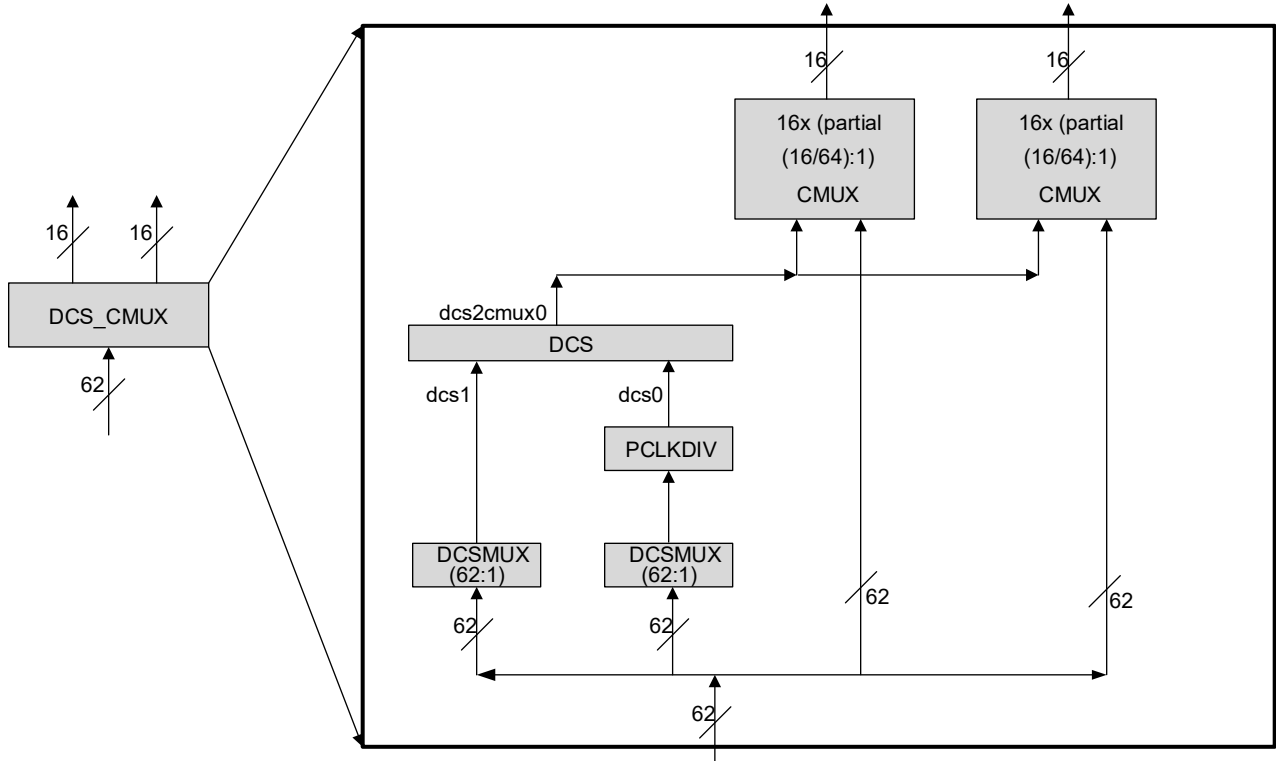
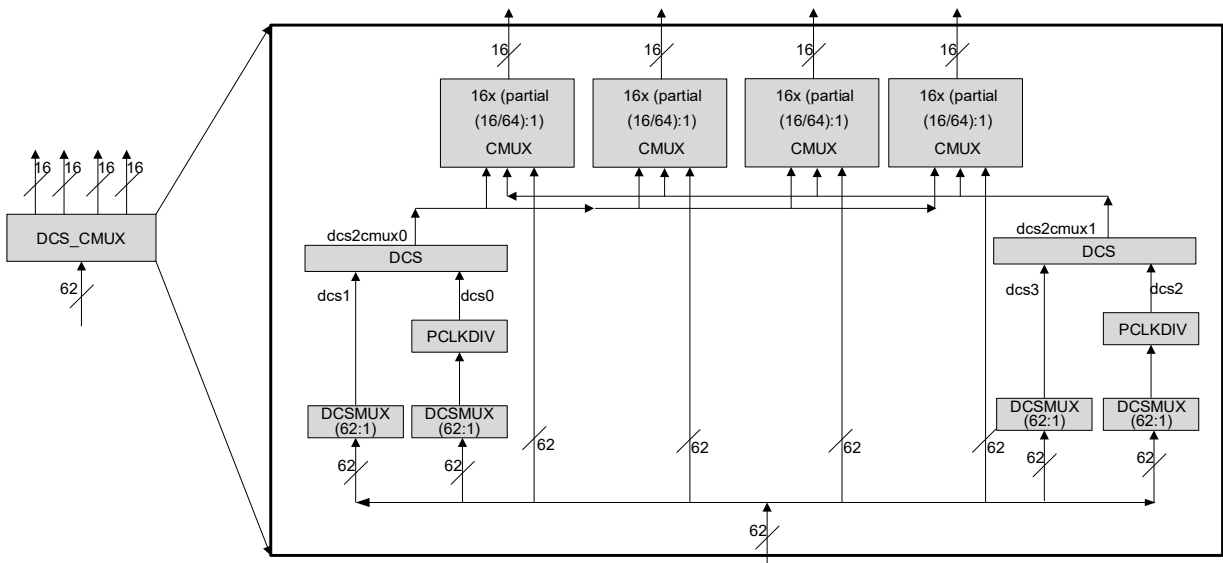

Figure 2.12. DCS_CMUX Diagram for MachXO5-NX-25 Devices
Figure 2.13. DCS_CMUX Diagram for MachXO5-NX-55T/MachXO5-NX-100T Devices
The PCLKDIV supports $\div 2$, $\div 4$, $\div 8$, $\div 16$, $\div 32$, $\div 64$, $\div 128$, and $\div 1$ (bypass) operation. The PCLKDIV is fed from a DCSMUX within the DCS_CMUX block. The clock divider output drives one input of the DCS Dynamic Clock Select within the DSC_CMUX block. The Reset (RST) control signal is asynchronously and forces all outputs to low. The divider output starts at next cycle after the reset is synchronously released. The PCLKDIV is shown in Figure 2.12.
All clock sources are selected and combined for primary clock routing through the Dynamic Clock Selector Center Multiplexor logic (DCS_CMUX). There are one (1) DCS_CMUX blocks per device. For 25k device, each DCS_CMUX block contains two (2) DCSMUX blocks, one (1) PCLKDIV, one (1) DCS block, and two (2) CMUX blocks. For 50T/100T device, each DCS_CMUX block contains four (4) DCSMUX blocks, two (2) PCLKDIV, two (2) DCS block, and four (4) CMUX blocks. See Figure 2.12 and Figure 2.13 for representative DCS_CMUX block diagrams.